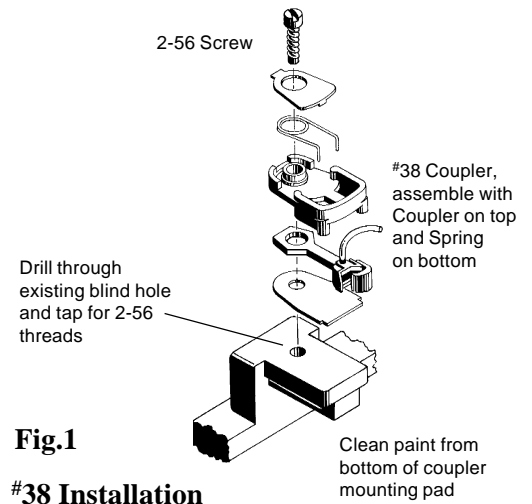

Fig.1
3. Assemble the #38 Coupler with Coupler on top and Torsion Spring on bottom as shown in Fig.1. Install Coupler, align and secure with a 2-56 screw.